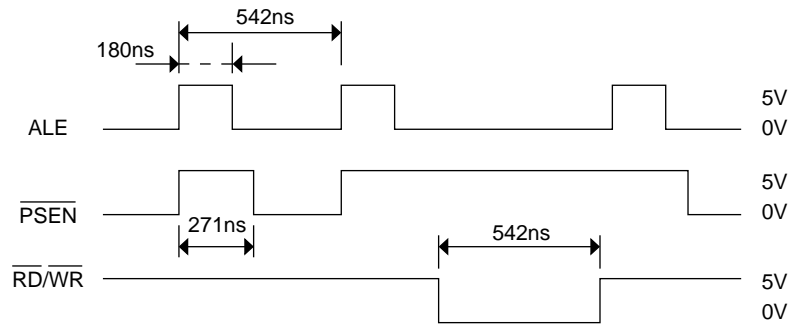

Figure C-3-3
• Yes Are ALE, $\overline{\text{PSEN}}$, $\overline{\text{RD}}$, $\overline{\text{WR}}$, signals as specified in Figure C-3-3?